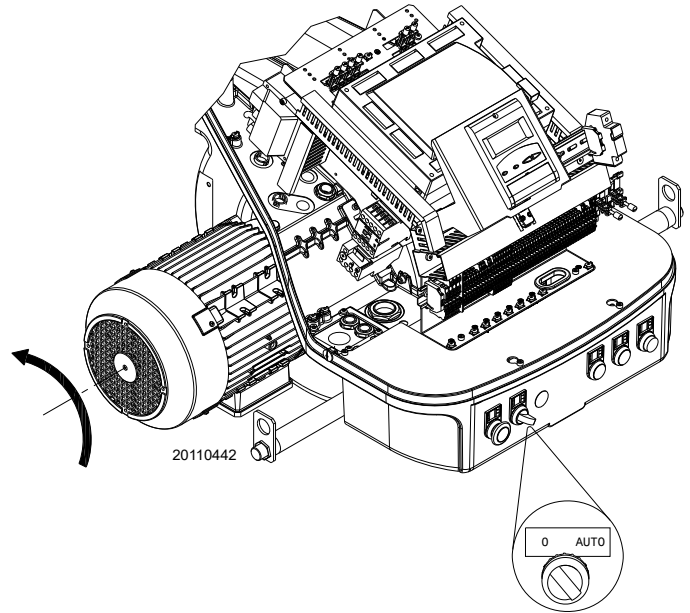

Fig. 27
Close the thermostats/pressure switches and turn the switch to Fig. 27 "AUTO".
If voltage is present, then **immediately** stop the burner and check the electrical wiring. When the burner starts, check the direction of the rotation of the motor, as shown in Fig. 27.
- place the switch of Fig. 27 in position "0" and wait for the flame control to carry out the switch-off phase;
- working on the switch “**0-AUTO**” of Fig. 27 at page 30;